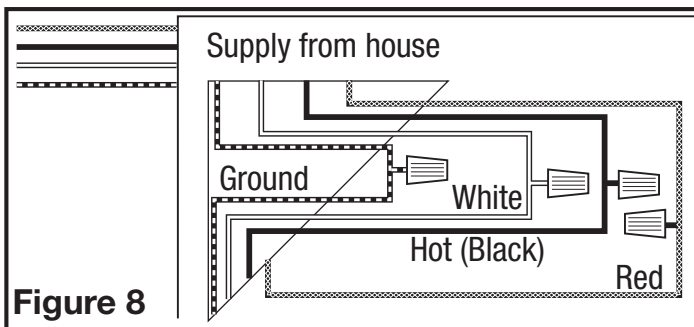

Figure 8
- From where you have chosen to access the fan's junction box, connect the white wire from the house to the white wire from the fan. Connect the wire from the automatic position on the wall switch to the black wire from the fan, connect the wire from the manual On position on the switch to the red wire from the fan. Connect the ground wire from the house to the green wire from the fan housing (Figure 8). Use approved methods for all connections.